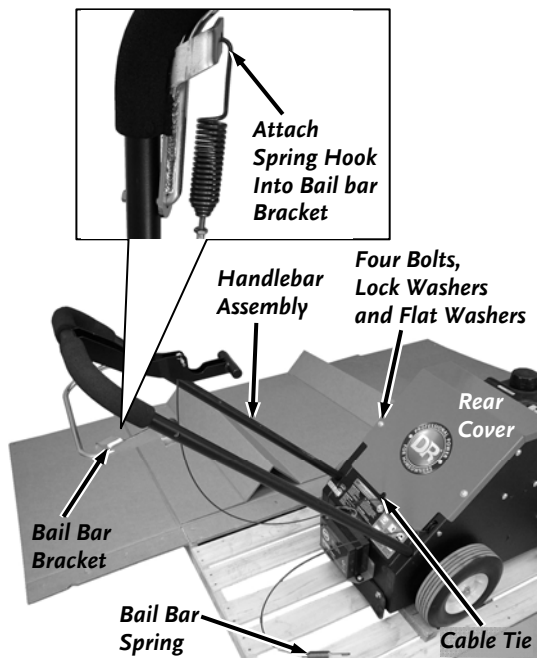

Figure 3
4. Pull the Handlebar Assembly from under the Frame and slide both tube ends into the holes in the Frame (**Figure 3**).